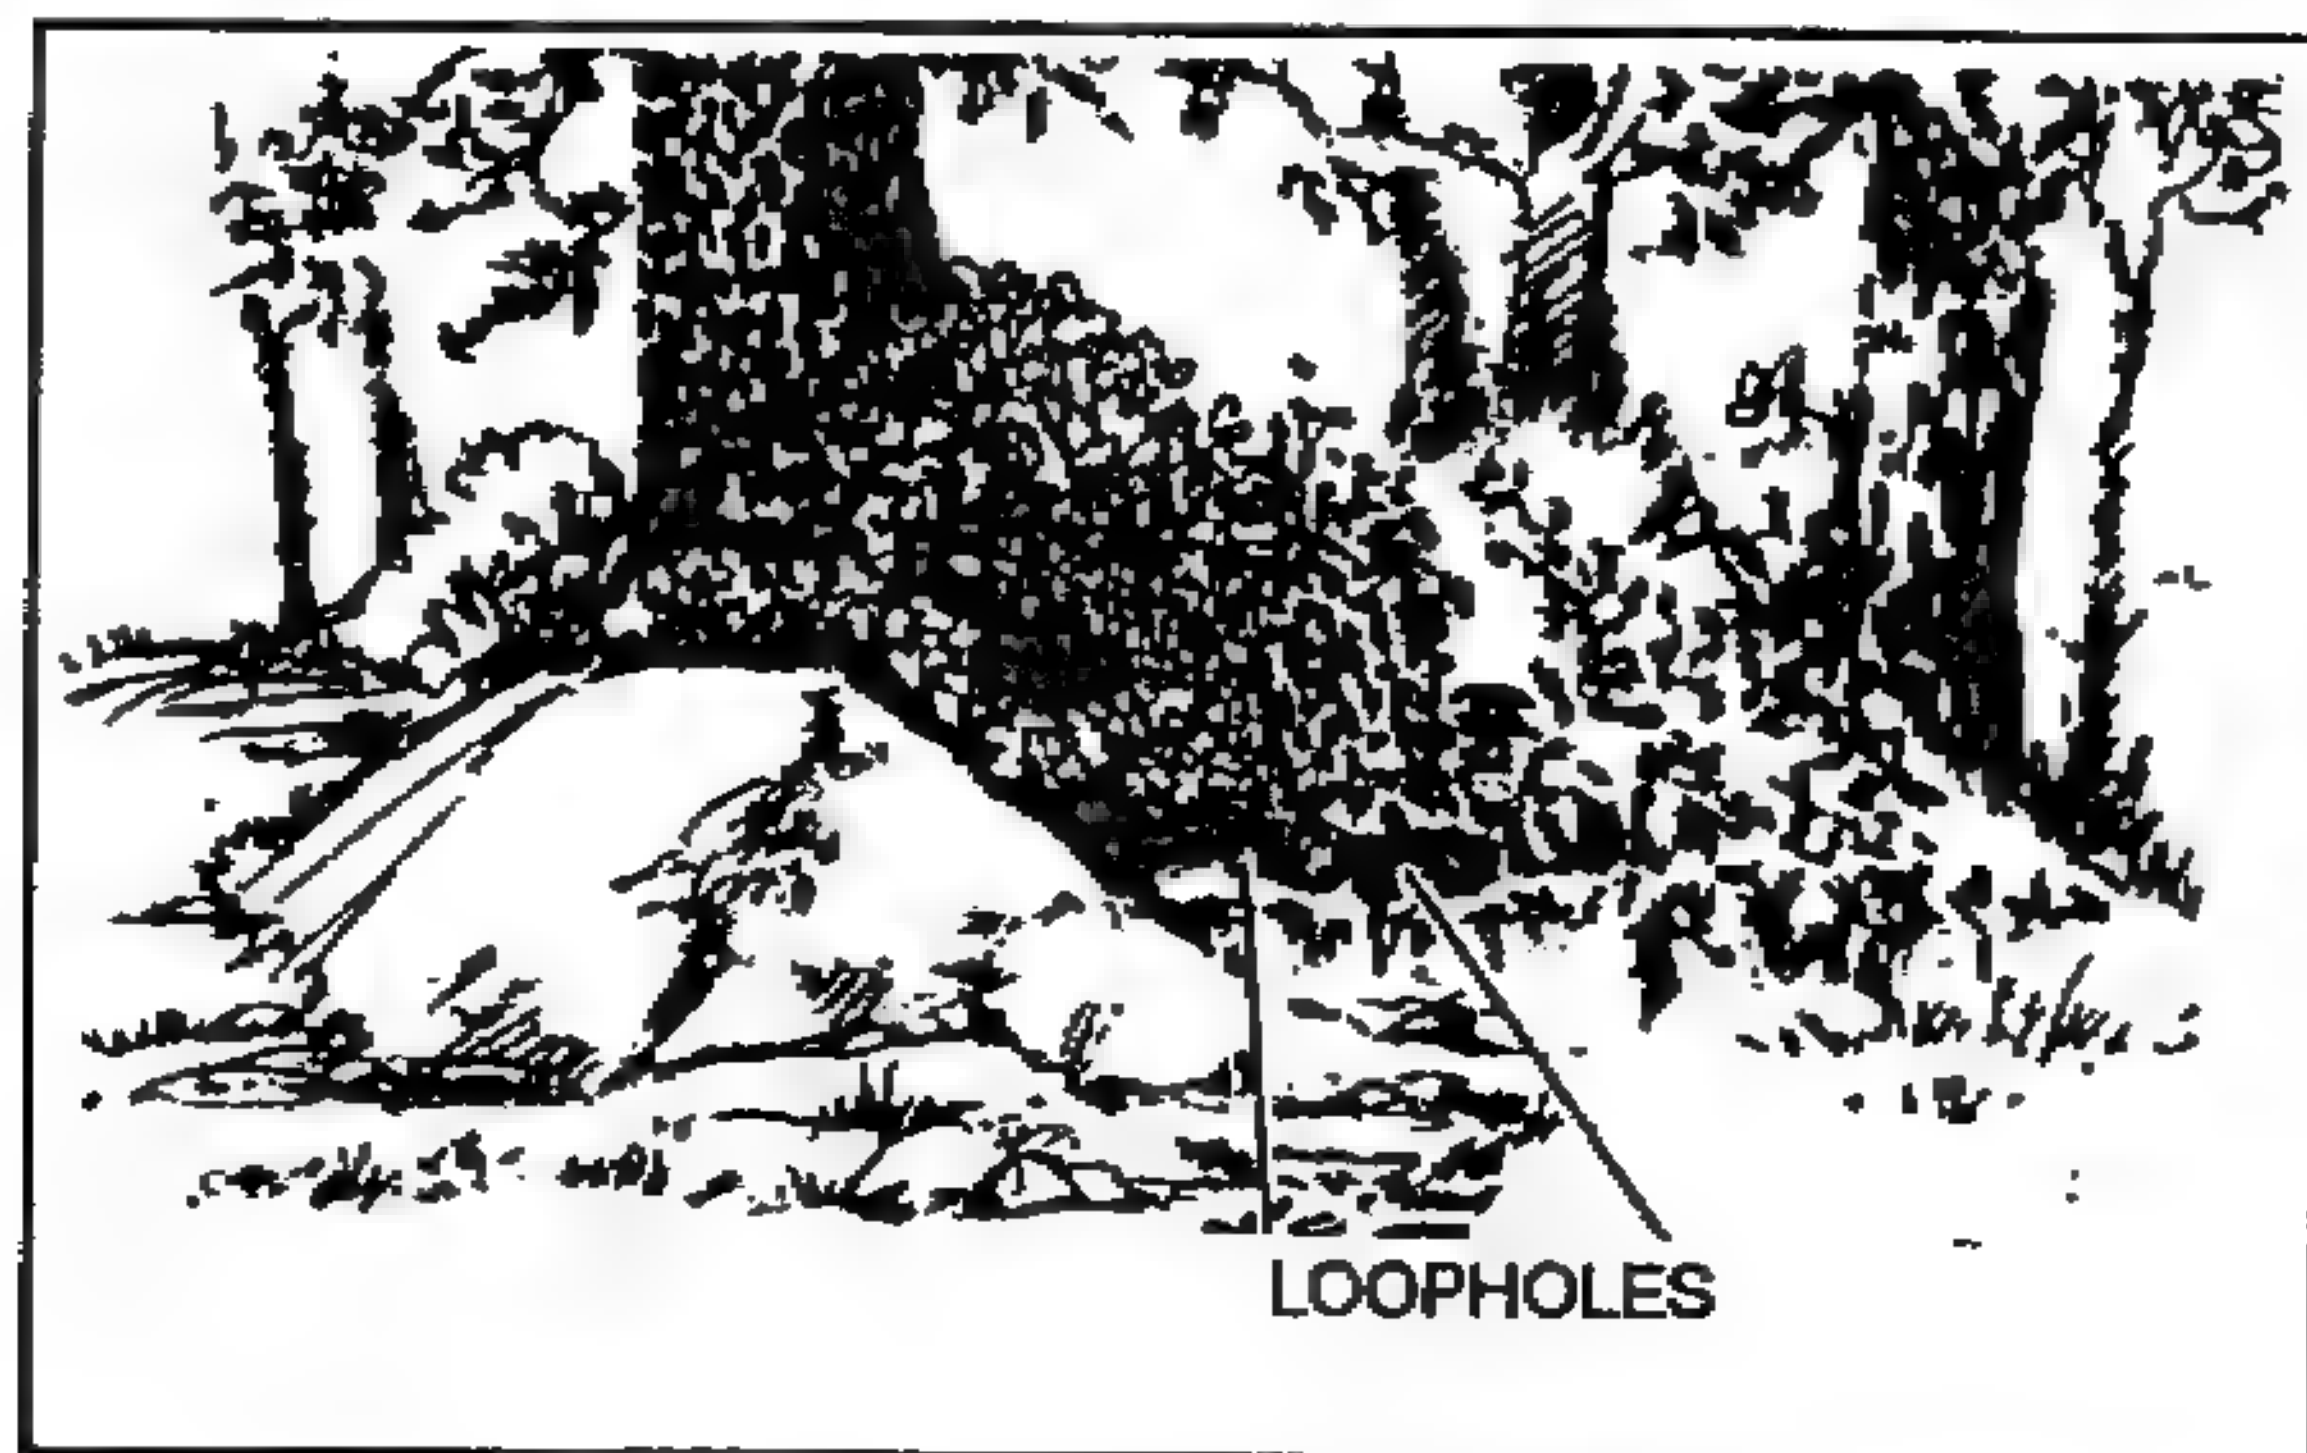

Figure 4-9. Loopholes in hide position.
(4) *Loopholes.* The construction of loopholes (Figure 4-9, page 4-18) requires care and practice to ensure they afford adequate fields of fire. Loopholes must be camouflaged by foliage or other material that blends with or is natural to the surroundings.